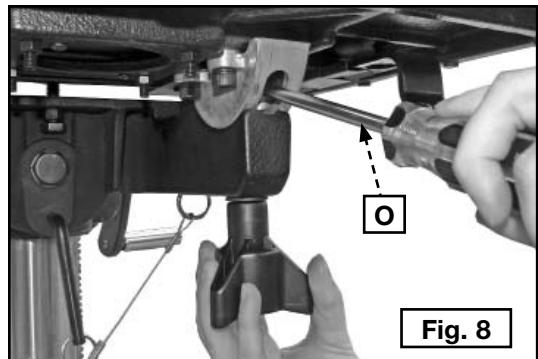

Fig. 8
**NOTE:** The bolts in the trunnion are moveable. To install knobs more easily, insert a flathead screwdriver (O) Fig. 8 in the opening of the trunnion against the bolts to steady them.